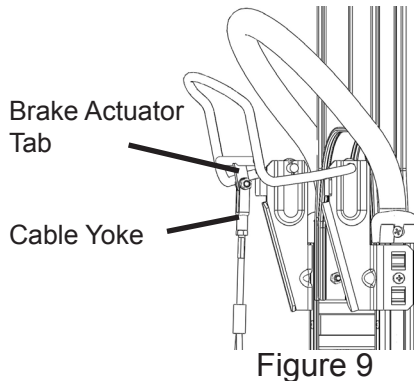

Figure 9
2. Turn the yoke on the top of the cable clockwise (moving down the cable's threaded stud) until the holes in the yoke are aligned with the holes in the brake handle actuator tab while pulling up on the cable (see page 7, Figure 9). Then loosen the yoke by turning it counter-clockwise several turns.
3. Attach the cable to the brake handle actuator tab with a 1/4"-20 x 1" long pan head machine screw (C) and 1/4"-20 locknut (D) and test to be sure there is no drag of the paddles on the wheels. If so, loosen the yoke another one or two turns and re-test. (Note: This typically requires the yoke to be loosened a total of 4 to 8 revolutions.)